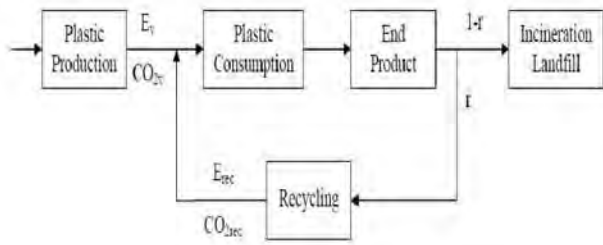

Figure 2. Flow chart of recycling as end product treatment.
4. Material recovery: recycling of conventional plastic material has several beneficial effects, including conservation of oil and natural gas. Recycling is less energy demanding than the production of the virgin plastic and reduces the amount of required landfill space. Figure 2 details a "closed loop" recycling option as an end product treatment. Only a defined amount of plastic 'r', is recycled. Correspondingly, the non-recycled plastic which is landfilled or incinerated is denoted by '1-r'. The energy required for the production of the virgin material resin and the emission generation is defined as 'Ev' and 'CO2v', respectively. The energy consumption and emissions for the production of recycled plastic is defined as 'Erec' and 'CO2rec'. The beneficial effect of recycling plastic can be expressed as a reduction of the energy demand and CO2 emissions during its production. The energy and emission saving by producing recycled plastic can be calculated according to equation (5) and (6):